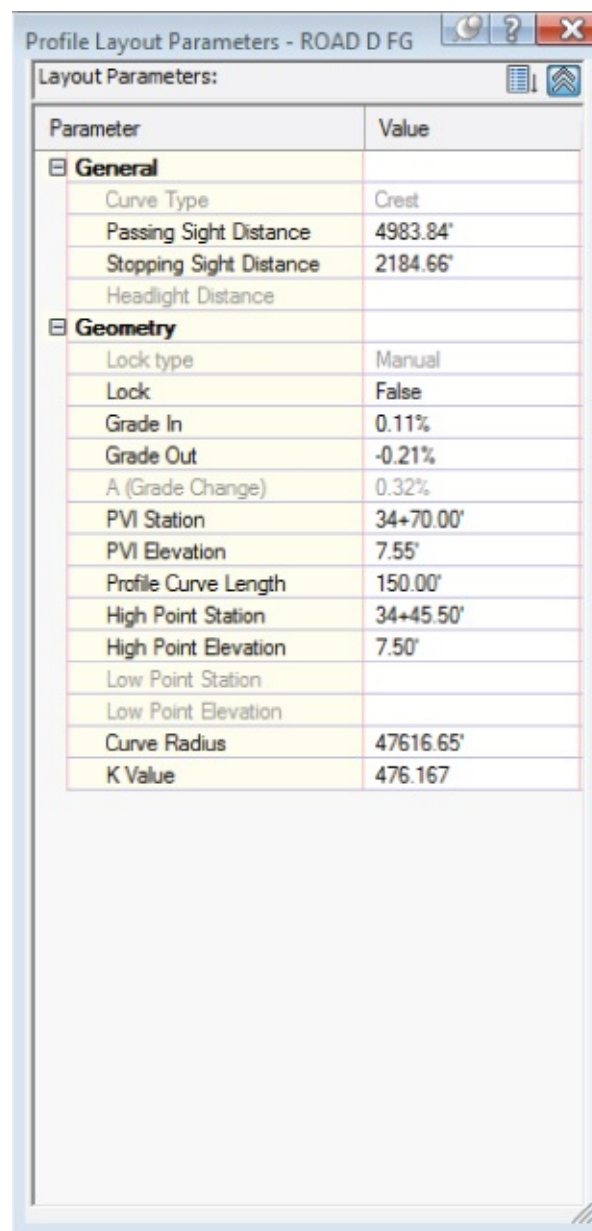

Figure 7.28 The Profile Layout Parameters dialog
6. Zoom in to click near the PVI at station 34+70 (or 1+057.66 for metric users) to populate the Profile Layout Parameters dialog (Figure 7.28).